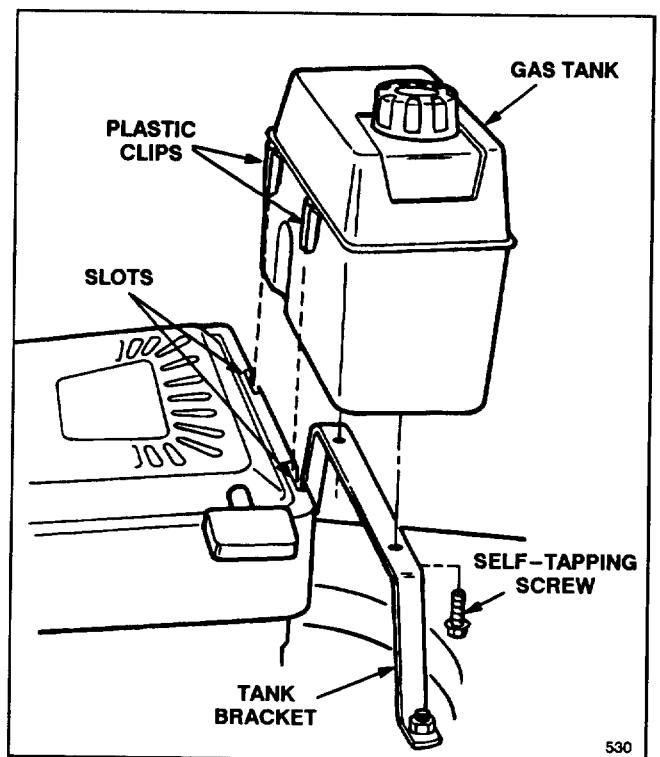

Figure 2
2. Hook plastic clips on front of gas tank into slots on rear of engine (Fig. 2).
- Secure gas tank to tank base with (2) self-tapping screws (Fig. 2). Do not overtighten screws.